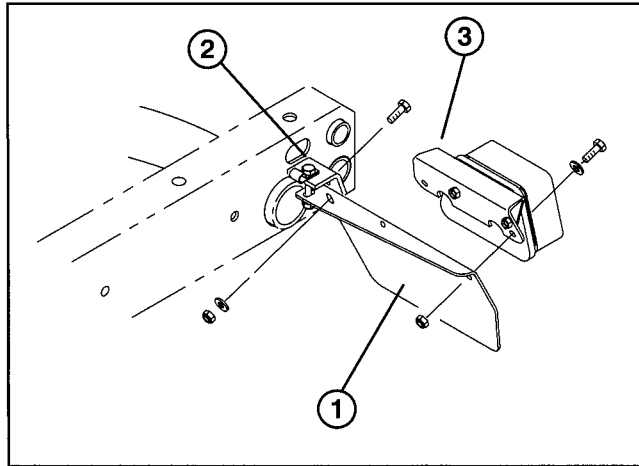

Figure 1
INSTALL REAR FENDERS (Fig. 1–2)
3. Secure rear of each tail light plate to rear of frame brackets with a 1/4–20 x 3/4" lg. capscrew, .281" I.D. flatwasher and nut, as shown in figure 1.
4. On left side, remove (2) capscrews, washers and nuts securing tail light mounting bracket to tail light plate.